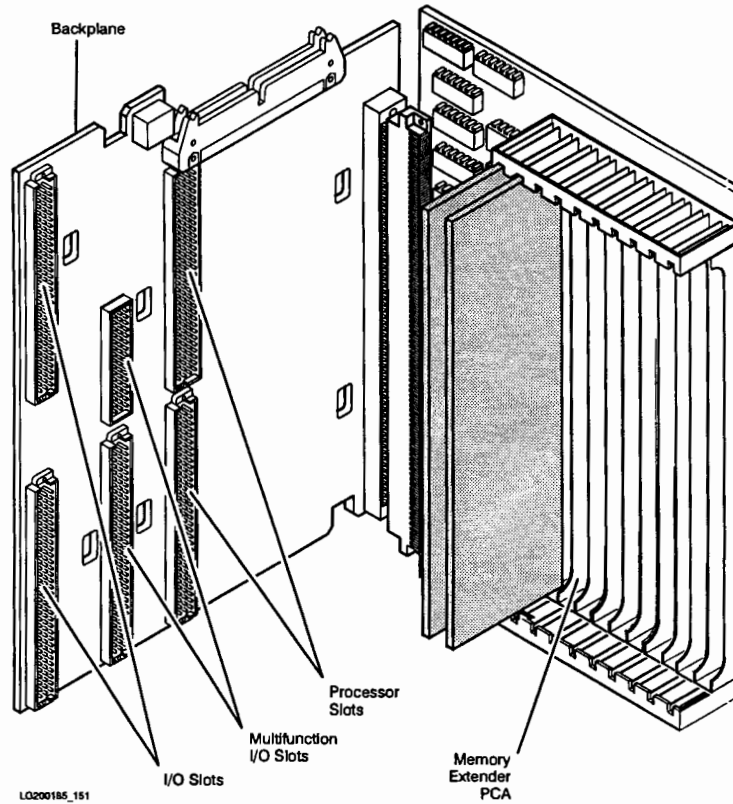

Figure 8-29. 64 MHz Memory Extender and Memory PCA Removal
2. Figure 8-29 shows Memory PCAs on the 64 MHz backplane and a partially populated Memory Extender. Note there is no memory on the 64 MHz backplane.